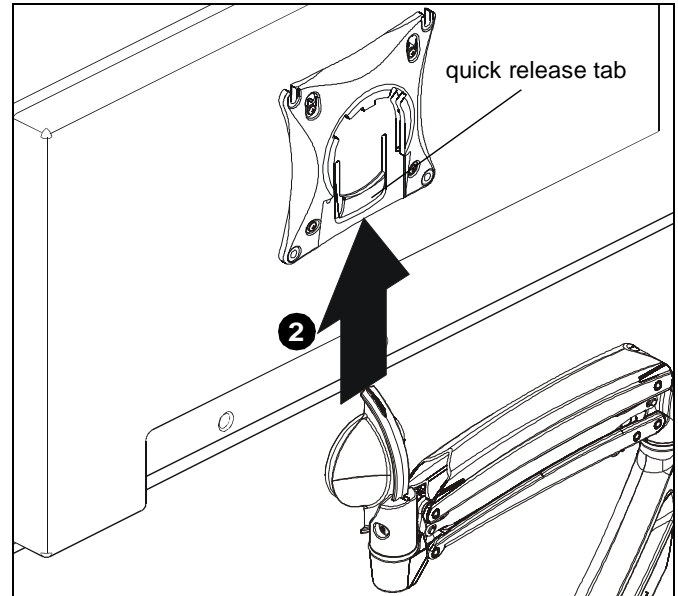

Figure 22
WARNING: Only remove display from mount when the display can be lifted up from the mount! **DO NOT** remove display unless the display is in the upright position! (See Figure 22)
2. Remove quick release faceplate from mount by pressing quick release tab and sliding faceplate off mount. (See Figure 22)